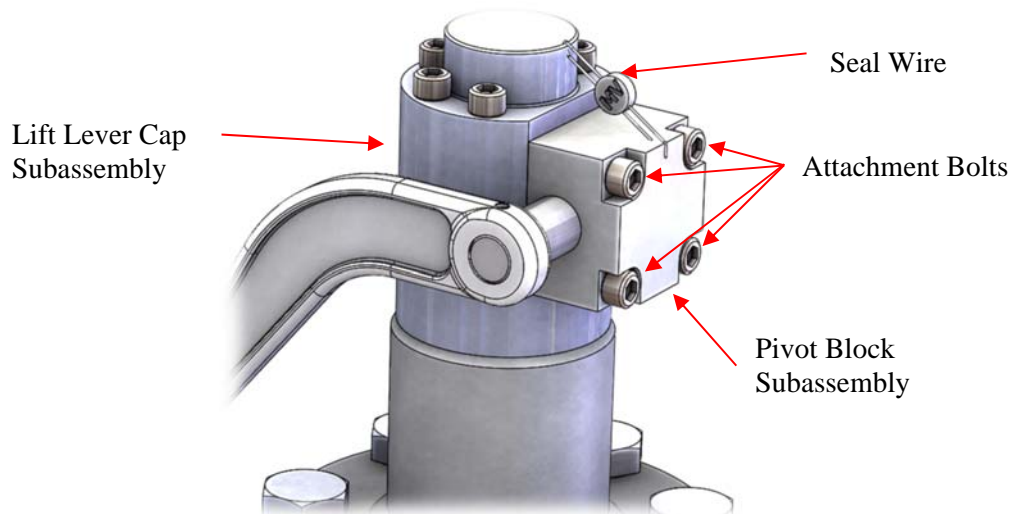

Figure 38: Lift Lever Cap - Top Entry
- 1. Cut and remove the seal wire. See Figure 38.
- 2. Unscrew the four bolts attaching the pivot block subassembly to the lift lever cap. See Figure 38.